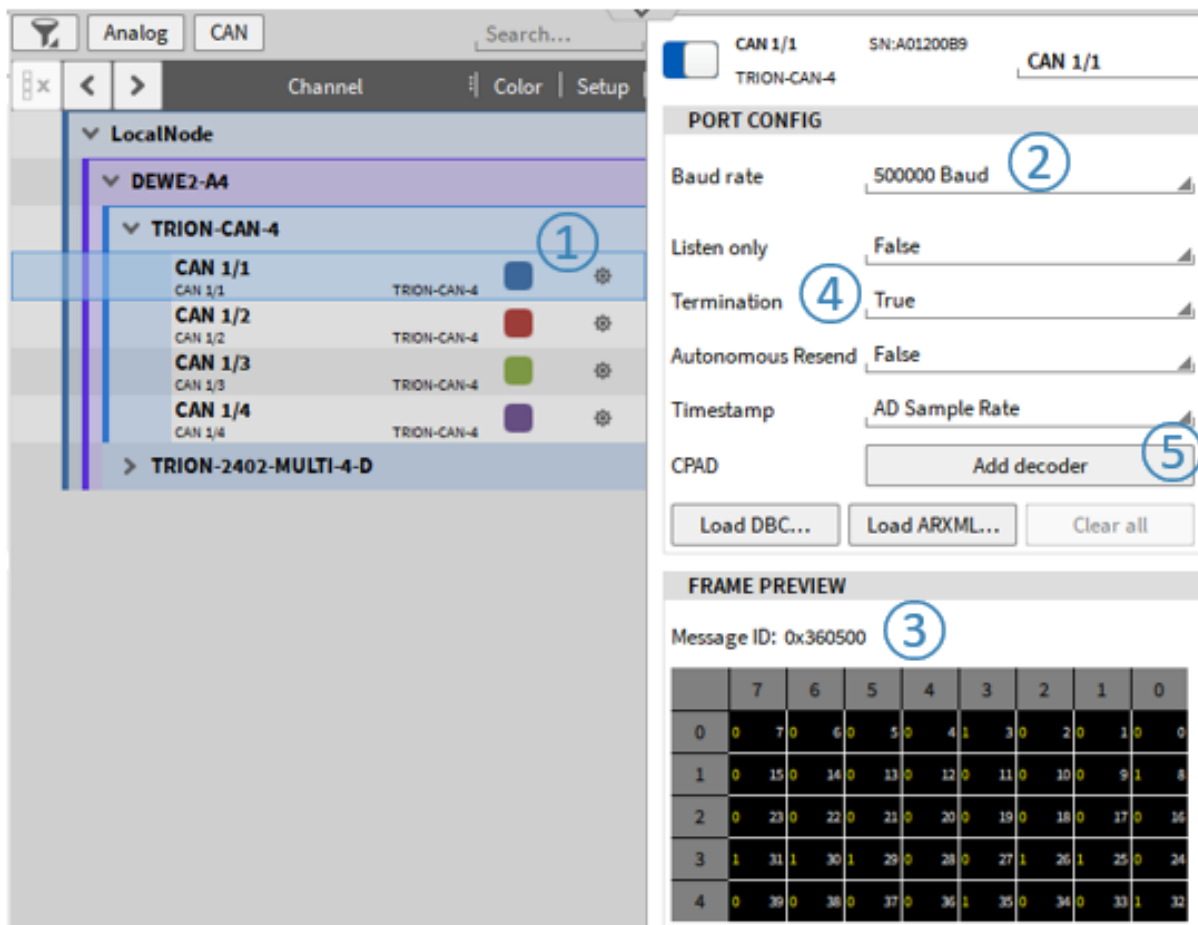
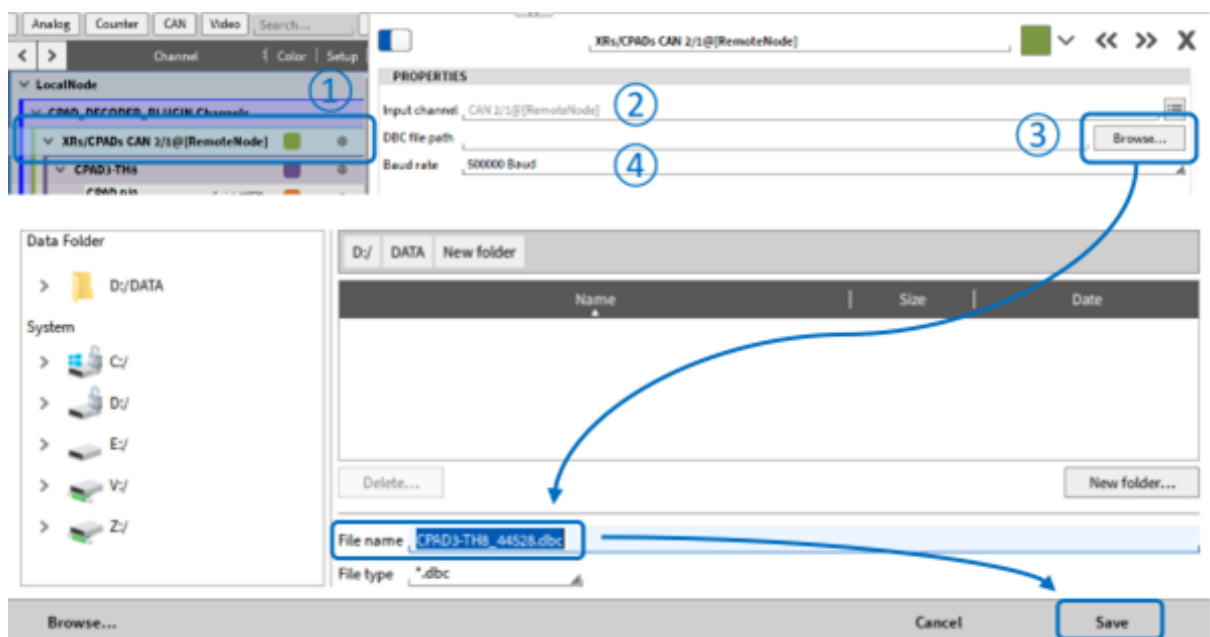

Fig. 4.32: Adding a CPAD decoder
Fig. 4.34: CPAD decoder settings
- Connect the CPAD to the desired CAN port and open its Channel settings in the Channel List (see ① in Fig. 4.32).
- Select the Baud rate of the CPAD (see ② in Fig. 4.32)
- If you don't know the CPAD's Baud rate change the Baud rates until the Frame Preview shows alternating Message IDs and frames (see ③ in Fig. 4.32)
- Make sure that the CAN bus is terminated with a 120 Ohm resistor or set the internal module termination to True (see ④ in Fig. 4.32)
- When the Baud rate is set up correctly press Add decoder (see ⑤ in Fig. 4.32)
After creating the CPAD decoder, the detected CPADs and their channel can be found in the channel list (see ① in Fig. 4.34). If desired, the referring CAN port can be changed (i.e. when a CPAD is connected to a different port) by selecting a different CAN port in ② in Fig. 4.34. The module baud rate can be changed here as well (see ④ in Fig. 4.34) in addition to the synchronous timestamp forcing equidistant timestamps if “True” ⑤. Make sure to change the CAN bus baud rate as well to properly receive and decode data in ② of Fig. 4.32.
Additionally, the configuration of the CPAD / XR can be saved into a DBC-file here (see ③ in Fig. 4.34).